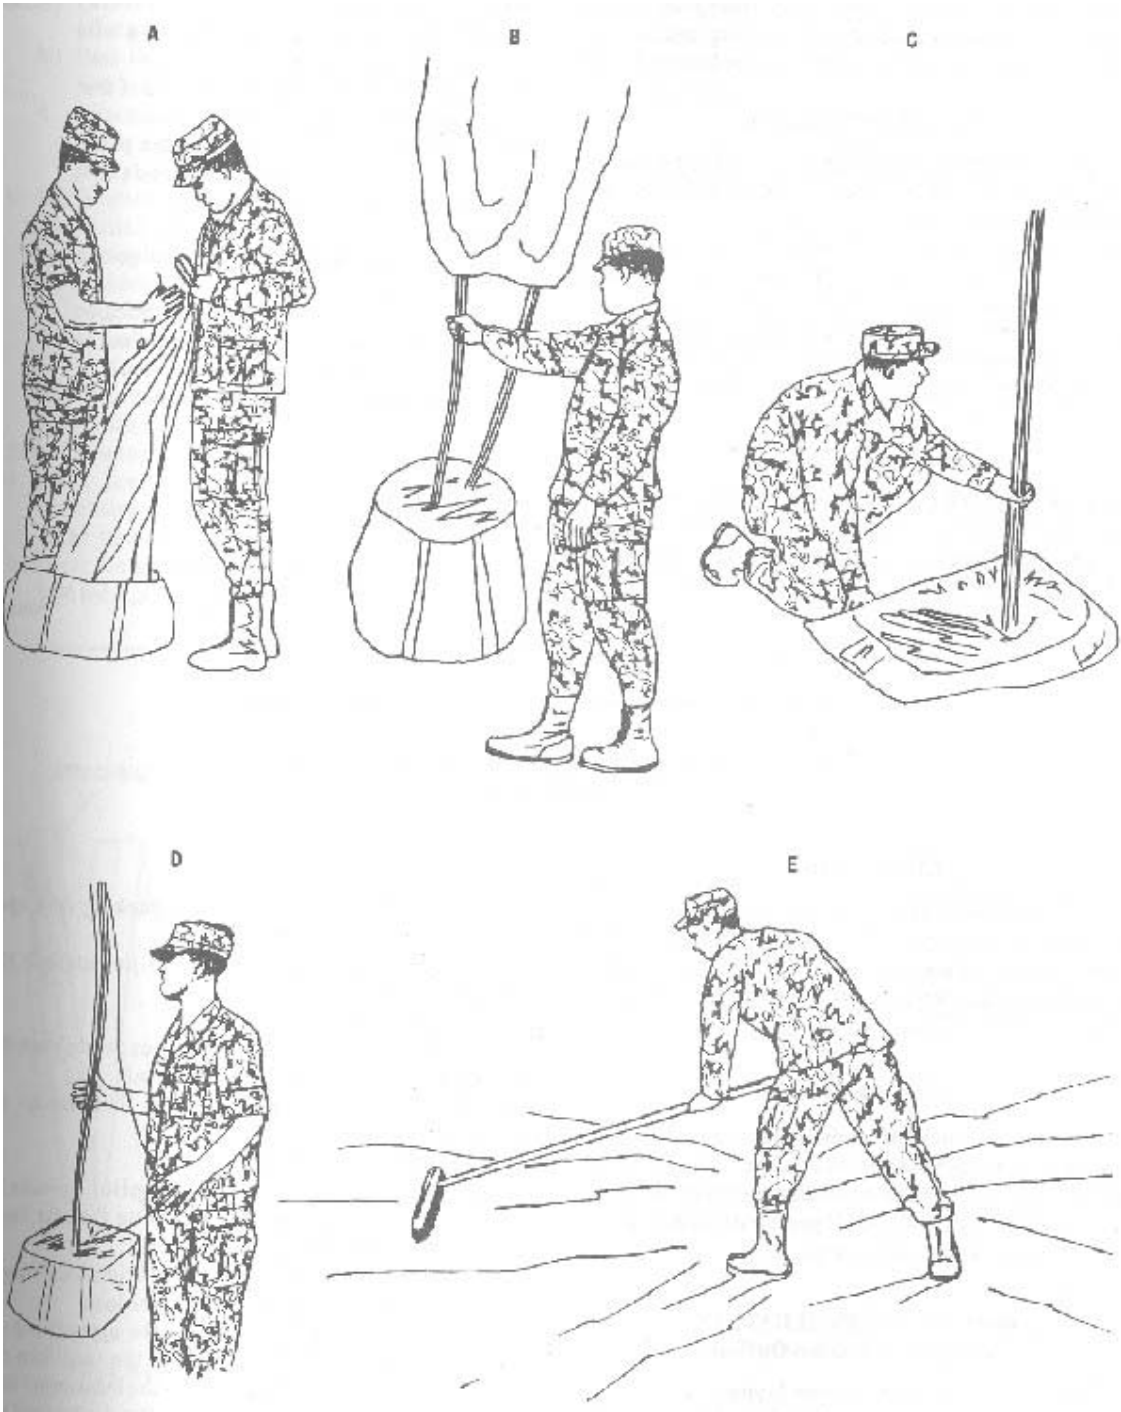

Figure 3-18
4. Remove any debris from the inside of the canopy. Walk through the inflated canopy with a broom or fine-bristled brush, and sweep the inside surfaces of debris. (See Figure 3-18)
- 5. S-fold the canopy, suspension lines, and risers inside of the deployment bag after the suspension lines and risers have been daisy-chained. (See Figure 3-18)